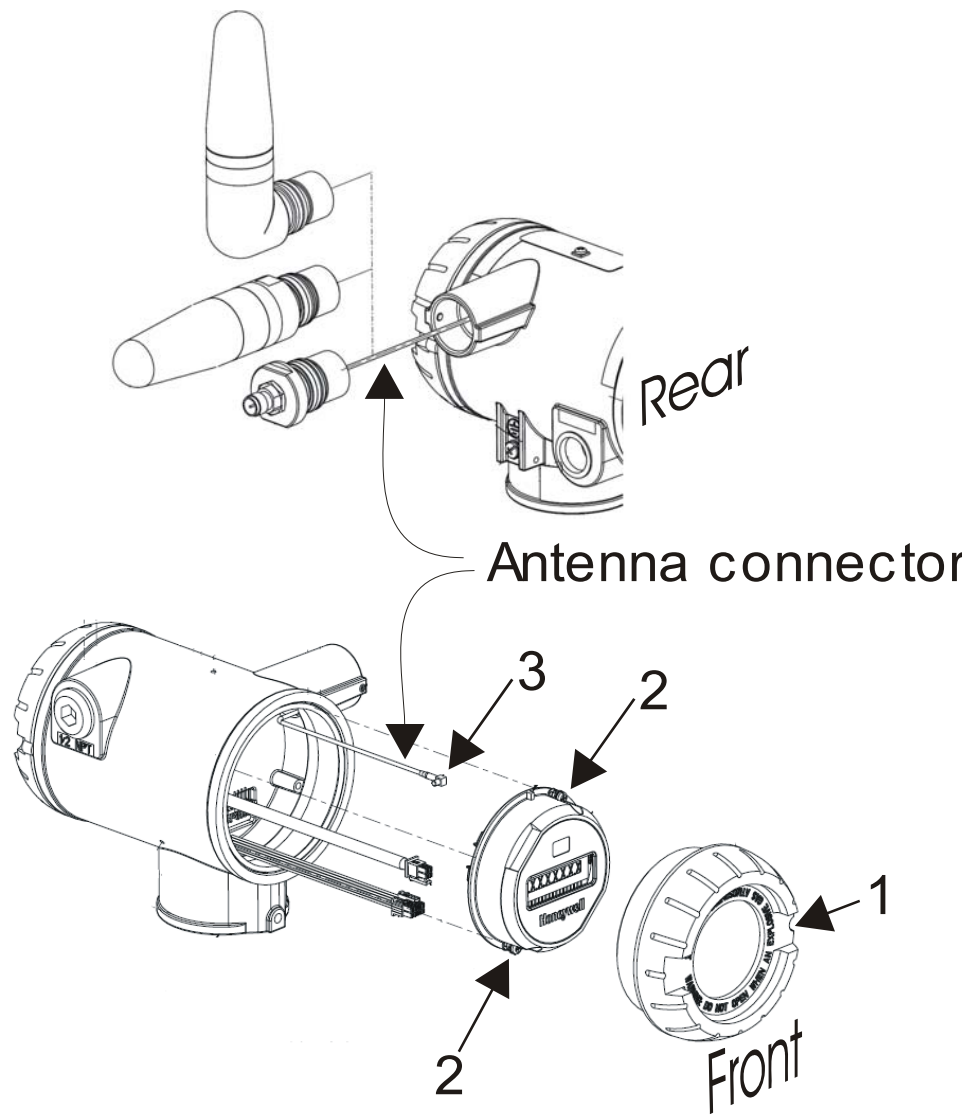

Figure 11 Antenna replacement
2	Loosen the M3 locking set screw on the display end-cap. See item 1 in Figure 11. Unscrew and remove the front end cap.
3	Loosen the two screws on the sensor module. See items 2 in Figure 11.
4	Remove the sensor module from the transmitter body and disconnect the antenna connector from CN2 connector on the sensor module. See item 3 in Figure 11.
5	Loosen the locking set screw at the antenna base. Unscrew the antenna from the transmitter. Remove the antenna and its connector from the transmitter. See Figure 11.
7	Attach antenna connector to CN2 connector on sensor module. See item 3 in Figure 11.
8	Insert sensor module. Orient in the proper viewing orientation before tightening two sensor compartment screws. See items 2 in Figure 11. Torque screws to 0,4 – 0,6 N-M (3.5 – 5.3 Lb-in).